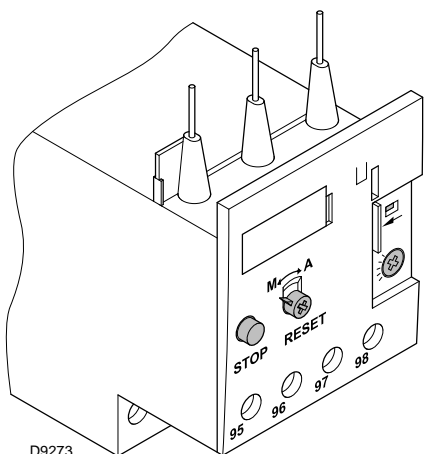

Fig. 28
The electro-mechanical thermal relay (Fig. 28) is used to avoid damage to the motor owing to a strong increase in absorption or the lack of a phase.
- To reset, in the case of an intervention of the thermal relay, press the button “RESET” (Fig. 28).
- The button “STOP” (Fig. 28) opens the NC (95-96) contact and stops the motor.